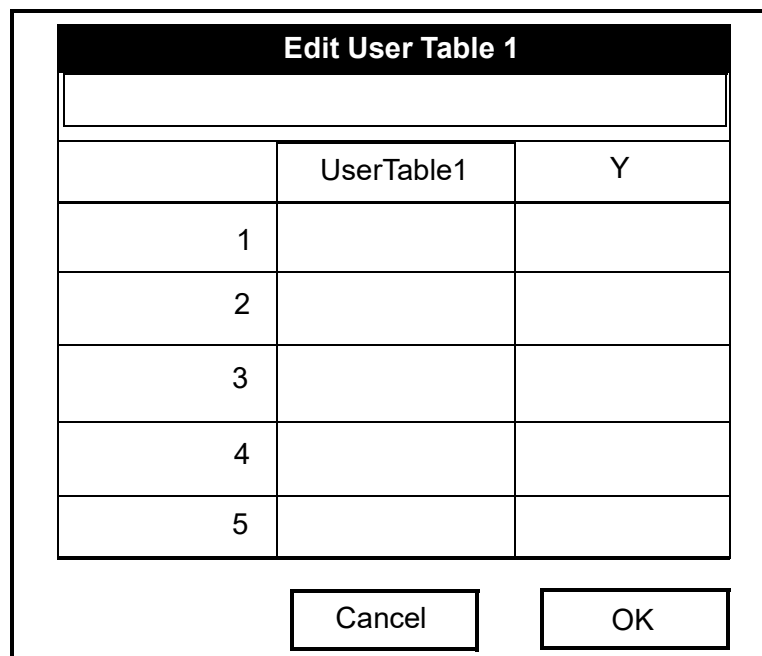

Figure 112: The Edit User Table Window
- d. When you have completed the label, press [F3] (OK) to confirm the label, or [F2] (Cancel) to leave the window without adding the label.
- a. Press [ENTER] to open the window. The screen appears similar to Figure 112 below.